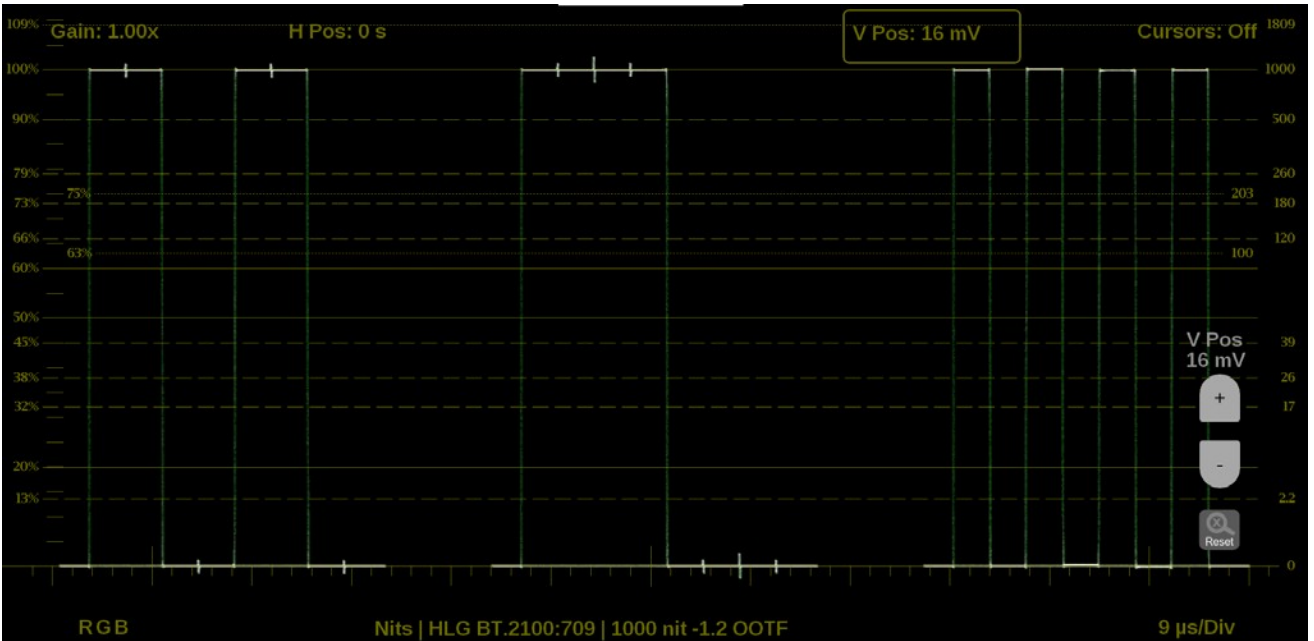

Figure 94: Waveform on-screen tools – vertical position
2. Select the **V Pos** button to adjust the vertical trace. (See Figure 94.)